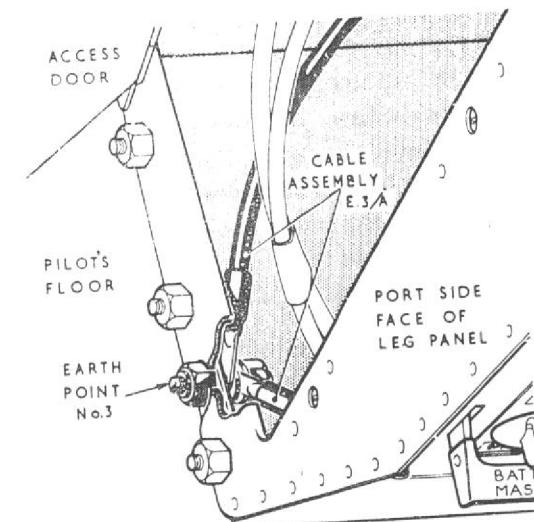

Fig.3 Earth point 3
(1) Render the aircraft electrically safe, as described in Group A.1.
(2) Disconnect the Bowden cable from the rudder bar release lever at the top of the leg panel and stow it away from the panel.
(3) Disconnect cable assembly A11 from cable assembly A111 at the plug and socket break, located on the port side of the instrument panel mounting structure. Remove any straps and clips securing the A11 cable and coil it back to the leg panel. Fit an approved cap and cover to the plug and socket.
(4) Disconnect cable assembly E3/A from earth point 3, obtaining access via the hinged door in the port side of the leg panel (fig.3).
(5) Disconnect all the plugs and sockets on the cable assemblies at the leg